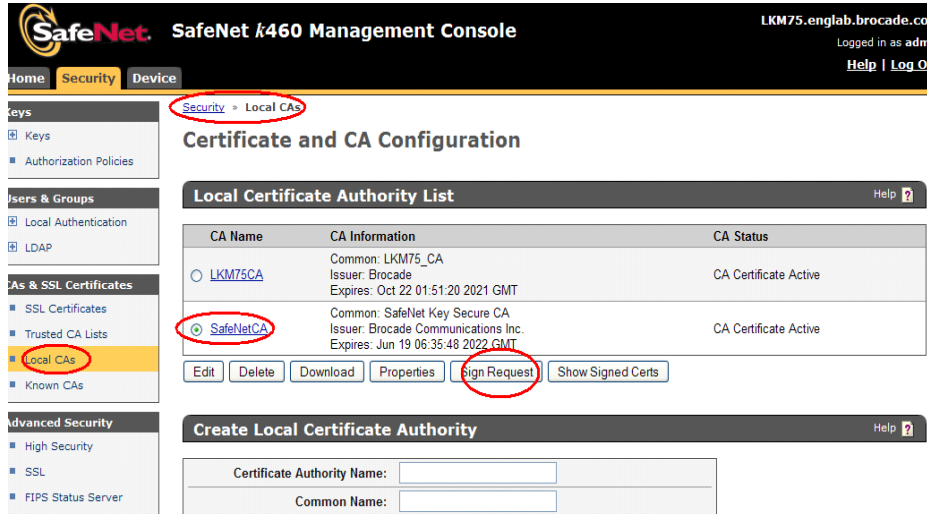

FIGURE 222 KeySecure Certificate and CA Configuration page - Local Certificate Authority List
7. Under **Local Certificate Authority List**, select the CA certificate you just created (SafeNetCA), then click **Sign Request**. (Refer to Figure 222.)